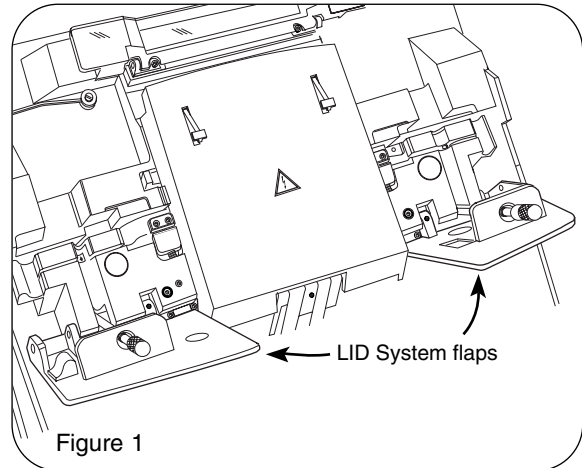

Figure 1
1. Open the Lid system flaps (Figure 1).